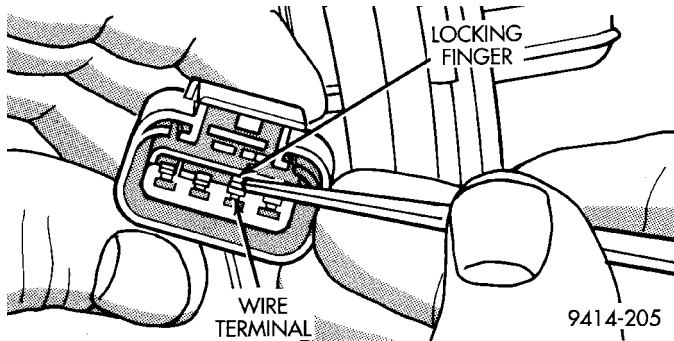

Fig. 25 Removing Wires From Connector
(4) Push level sensor signal and ground terminals out of the connector (Fig. 25).